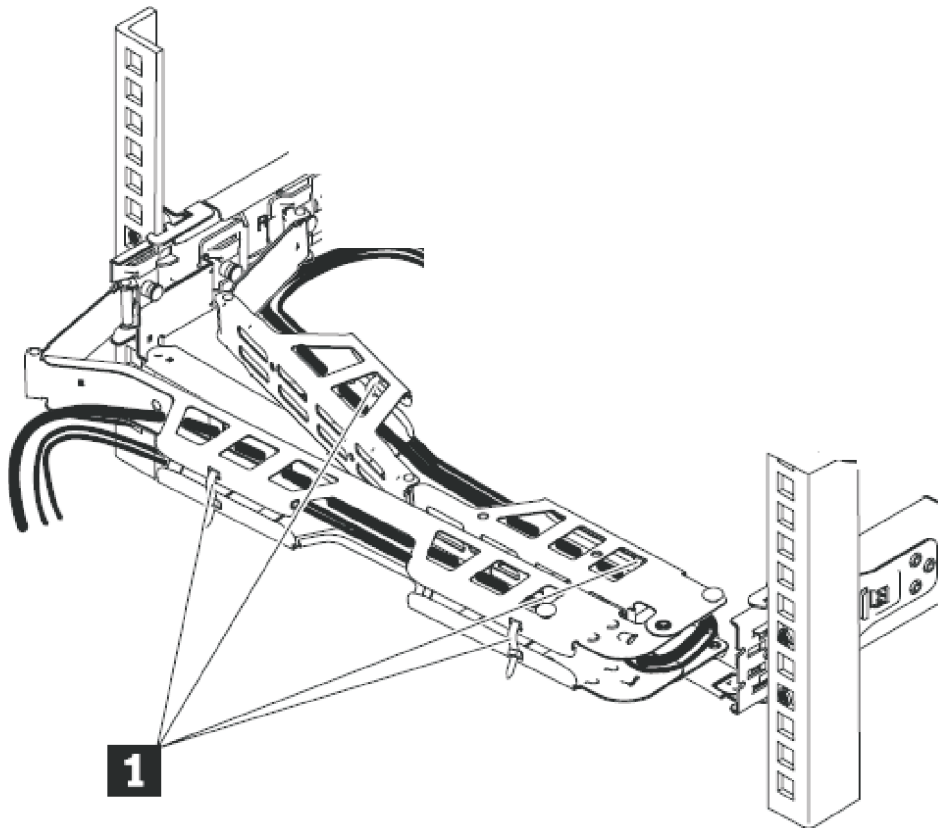

Figure 29. Connecting and routing the cables
- a. Route the data cables and power cords along the cable-management arm, as shown **1** in Figure 29 on page 33.